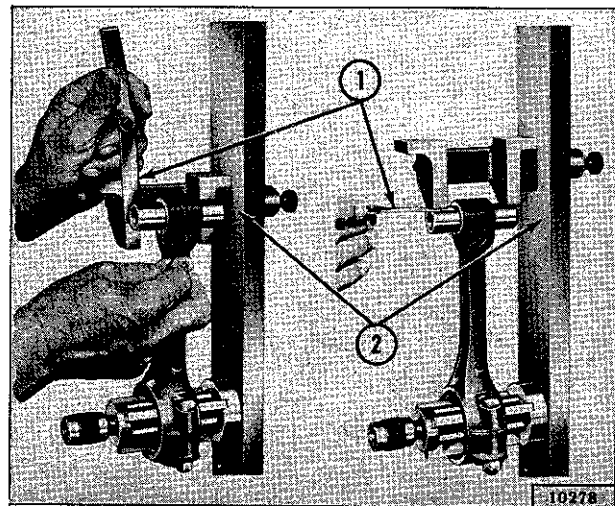

FIG. 100—CHECKING CONNECTING ROD ALIGNMENT.
**b.** Check and if necessary correct connecting rod alignment using a connecting rod aligning fixture such as the one shown in Fig. 100, in accordance with the instructions furnished with the fixture.